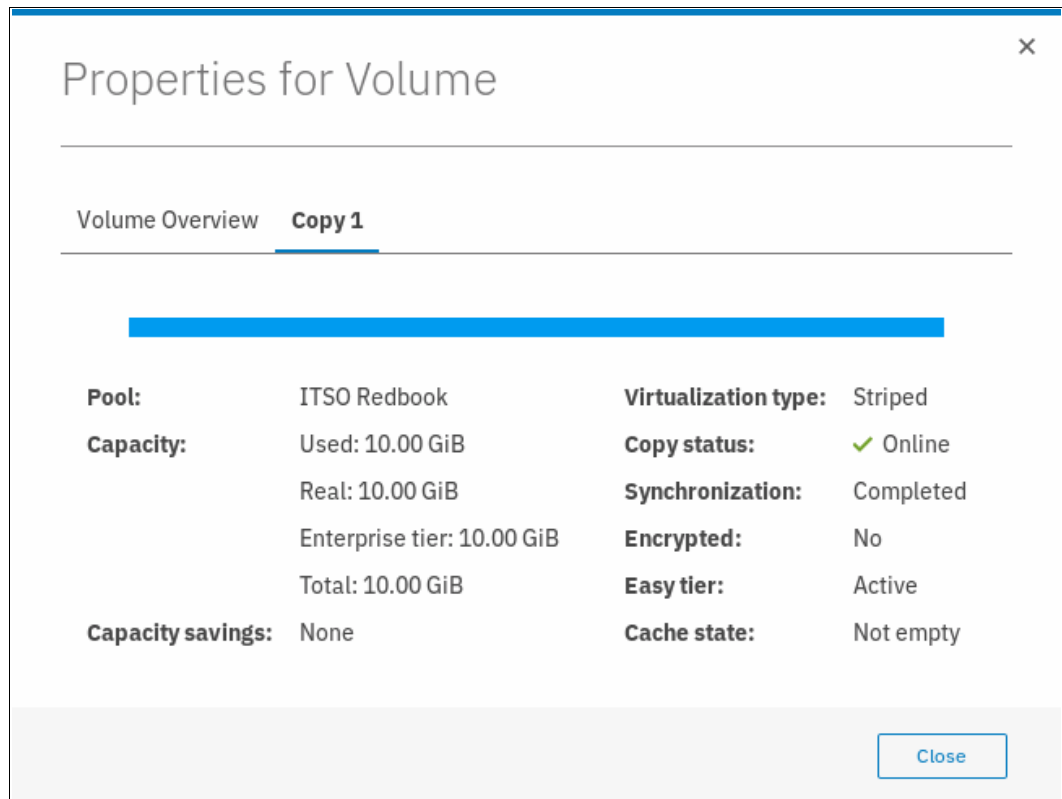

Figure 6-53 Verifying the new copy in the target storage pool
7. Ensure that the new copy is in the target storage pool, as shown in Figure 6-53.